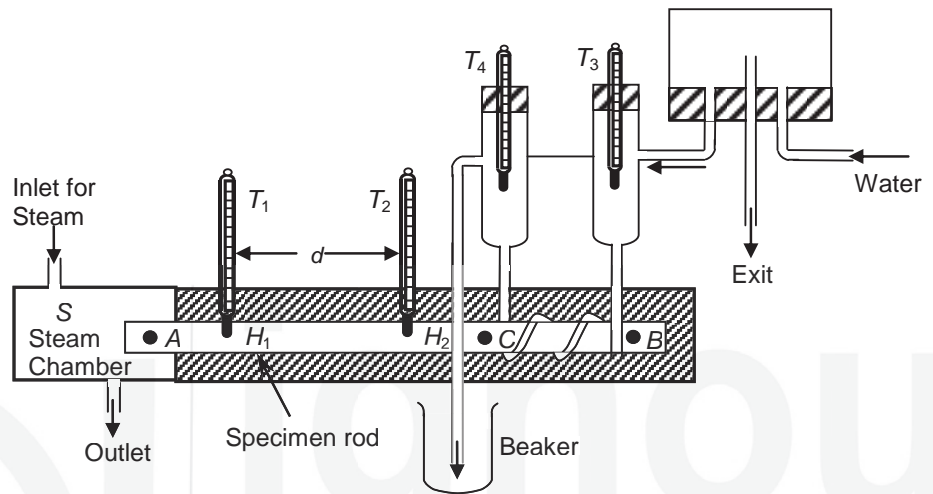

Fig 3.3: Searle's apparatus
Refer to Fig. 3.3. It shows Searle's apparatus used to determine thermal conductivity of a good conductor only. The essential parts of the apparatus are:
1. Place Searle's apparatus shown in Fig. 3.3 on a horizontal table.
4. Start a steady flow of cold water through the copper tube C . Place thermometers T_3 and T_4 at the inlet and outlet, respectively as shown in Fig. 3.3. You should start with very low flow. Connect one end of coil C to constant level tank so that water is available at all times.